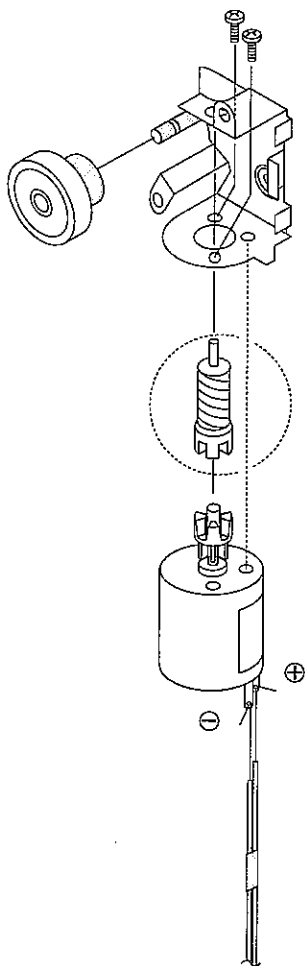

Figure 1-53.
- ① Take out the old loading motor. Place a replacement loading motor as shown above (Figure 1-53.).